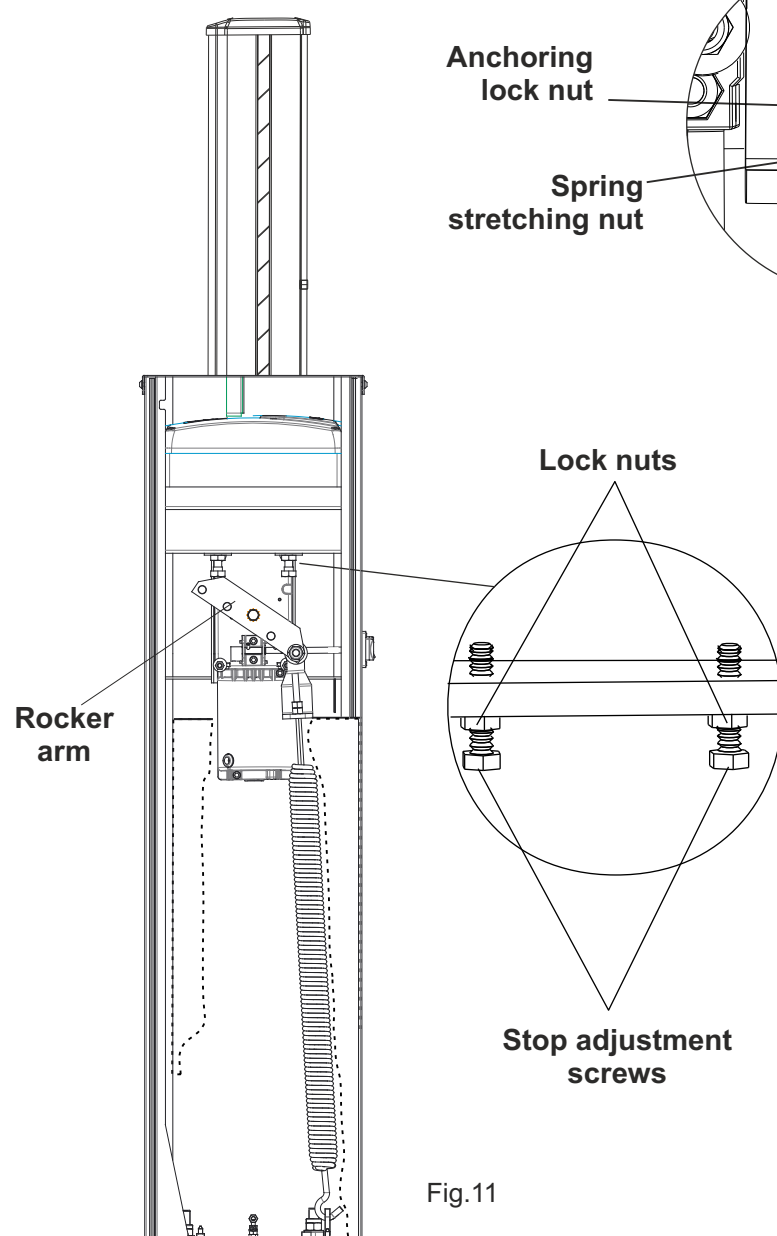

Fig.11
- Release the screws of the limit switch on unscrewing the nuts on the mechanical stops (Fig.11).
- Loosen or tighten the stop screws so that the beam is released in its vertical position (opening stage) (Fig. 11) and horizontal position (closing stage).